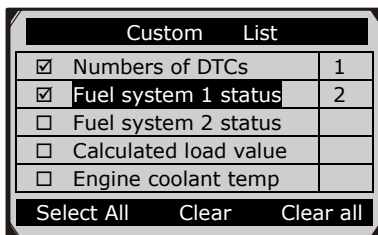

Figure 5.14
- 2) Use the **UP/DOWN** scroll button to move up and down to the desired items and click **Select** button to confirm. The selected parameters are marked with solid squares.( Figure 5.14 )